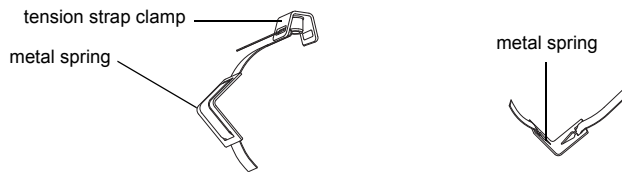

Fig. 8.33: Tension strap with metal spring and tension strap clamp
- If necessary, insert the long end of the tension strap into the metal spring (see Fig. 8.33). It is not necessary to mount the metal spring: